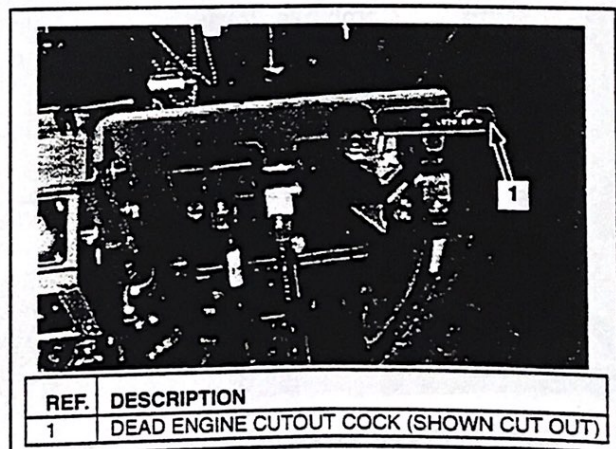

FIG. 18. DEAD ENGINE CUT-OUT COCK.
7. Cut-in the Dead Engine Cut-Out Cock (Item 1, Fig. 18) through hatch (Item 8, Fig. 3) and charge the brake-pipe.
10. Dead Engine Cut -Out Cock - (Item 1, Fig. 18)